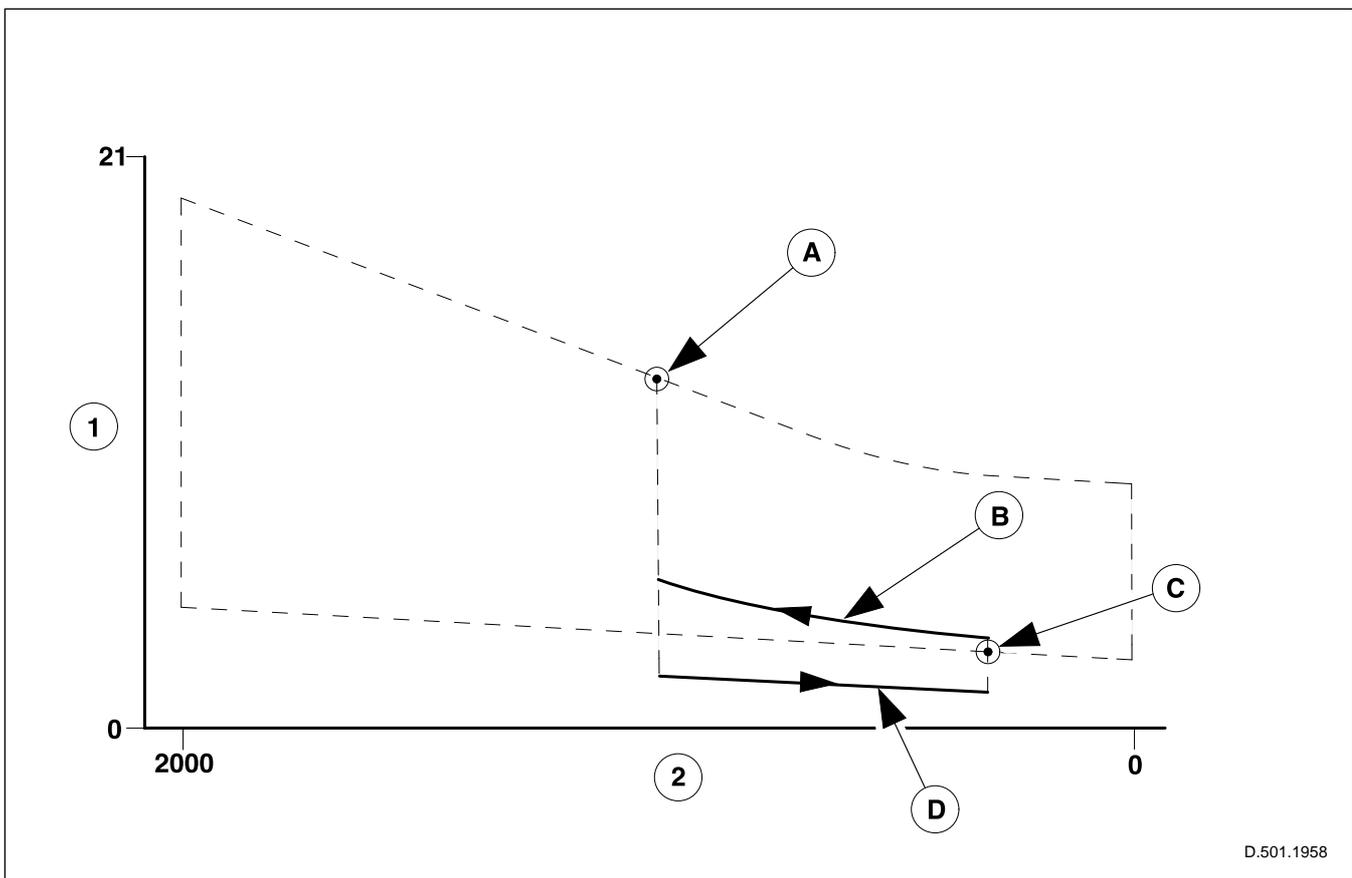

Fig. 39 Force/webbing relationship - comfort spring mode
The safety belt, on initial extraction of the webbing, is controlled by the retraction spring (B). Whenever the front safety belt tongue, engages with the safety belt buckle, the comfort system solenoid (C) actuates the comfort switch (D) causing the comfort spring (A) to change the force exerted on the occupant as shown in fig. 39.